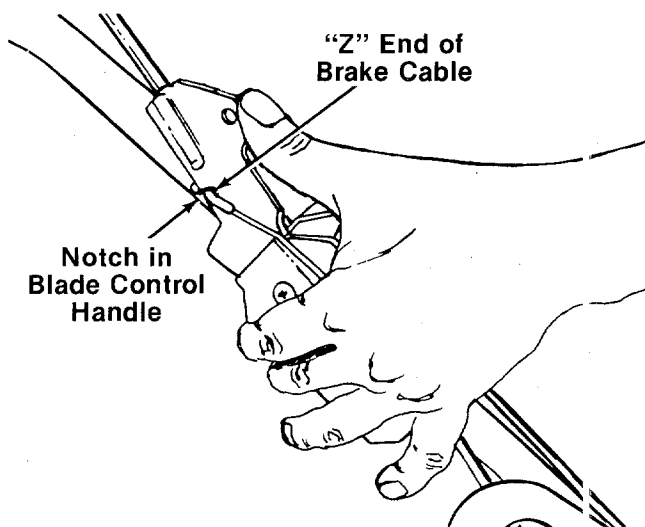

FIGURE 9.
a. Hook the "Z" end of the cable into notch provided in the blade control handle. See figure 9.